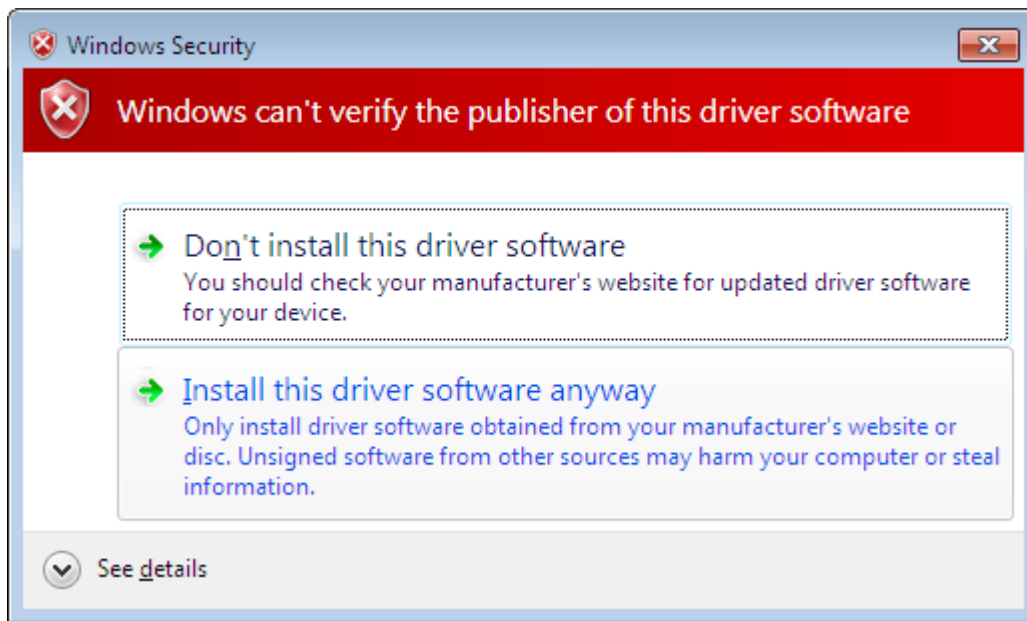

Figure 7: Diamond Systems JNMM-4LP-XT Driver Setup
- Click on “Install this driver software anyway” (shown in Figure 7) to proceed the installation process.